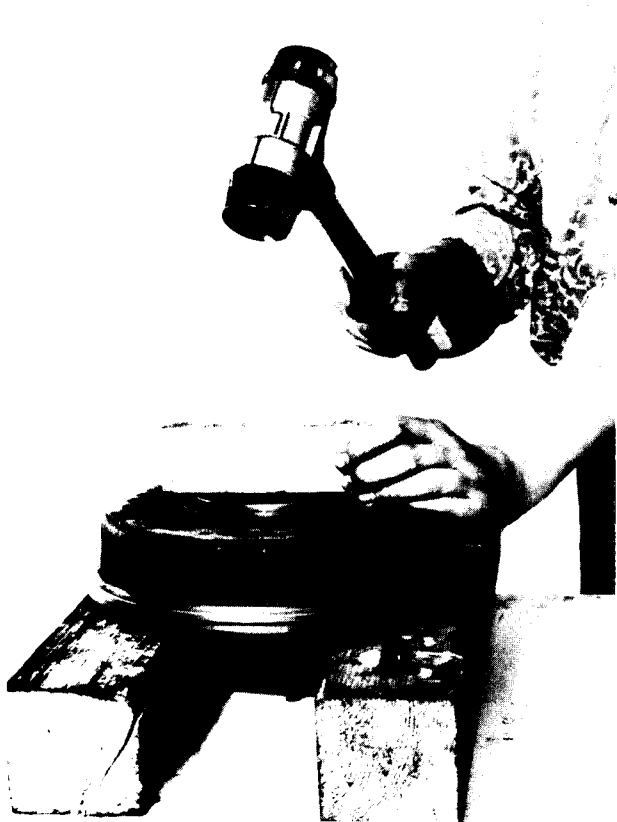

Fig. 17. Replacement of stuffing box wearing ring.
- d. Inspect wear ring No. 7 in casing. Pump sizes fitted with impellers having balancing holes around hub are also equipped with wear ring No. 27 in stuffing box cover. Wear rings must be replaced when diametrical clearance between impeller No. 2 and wear ring No. 7 and No. 27 (if applicable) exceeds .012". See Fig. 17 for proper installation of wear ring.